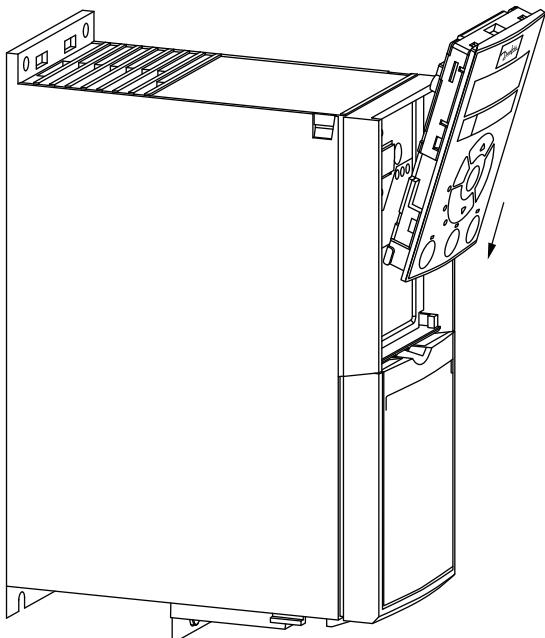

Fig. 67 — Align Bottom of VFD Keypad with Opening in VFD Front Panel
1. Place the bottom of the VFD keypad into the variable frequency drive as shown in Fig. 67.